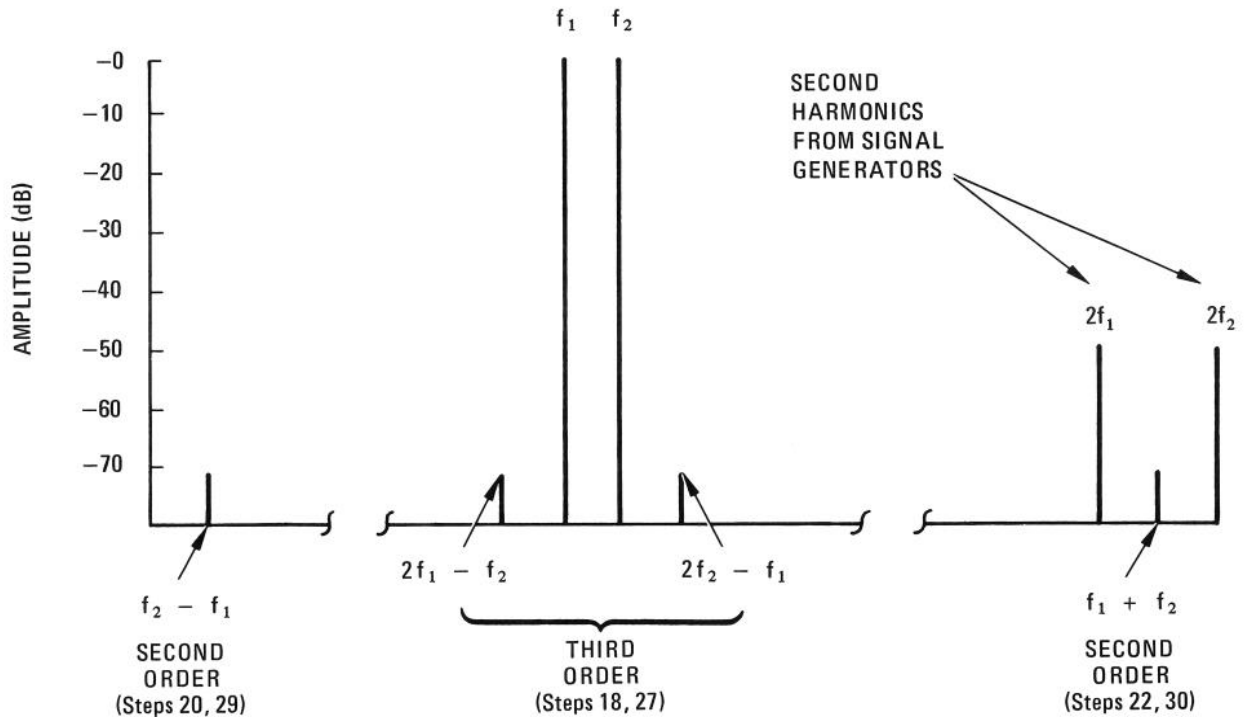

FIGURE 4-15. INTERMODULATION DISTORTION PRODUCTS
18. Reduce spectrum analyzer RESOLUTION BW to 3 kHz and check for third order intermodulation distortion products at approximately 3 divisions to either side of center graticule line (see NOTE below). They should be more than 70 dB below input signals (-100 dBm on spectrum analyzer display). (See Figure 4-15.)
20. Set spectrum analyzer TUNING to 1 MHz and momentarily press FREQUENCY CAL switch. Set RESOLUTION BW to 3 kHz and adjust VIDEO FILTER as necessary for more than 70 dB display range. Check for second order intermodulation distortion product ($f_2 - f_1$) near center of display (see NOTE, below). Second order intermodulation distortion product should be more than 70 dB below the total applied signal (-110 dBm on spectrum analyzer display). (See Figure 4-15.)
22. Check for second order intermodulation distortion product ($f_1 + f_2$) between $2f_1$ and $2f_2$ signals (see NOTE below). Set RESOLUTION BW to 3 kHz and adjust VIDEO FILTER as necessary for more than 70 dB display range. Second order intermodulation distortion product should be more than 70 dB below total applied signal (– 110 dBm on spectrum analyzer display). (See Figure 4-15.)
29. Set spectrum analyzer TUNING to 1 MHz and momentarily press FREQUENCY CAL switch. Set RESOLUTION BW to 3 kHz and adjust VIDEO FILTER as necessary for more than 70 dB display range. Check for second order intermodulation distortion product ($f_2 - f_1$) near center of display (see NOTE below). Second order intermodulation distortion product should be more than 60 dB below total applied signal (– 100 dBm on spectrum analyzer display). (See Figure 4-15.)
30. Set spectrum analyzer TUNING to 8 MHz and check for second order intermodulation distortion product ($f_1 + f_2$) between $2f_1$ and $2f_2$ signals. (See figure 4-15.) Second order intermodulation distortion product should be more than 60 dB below total applied signal (– 100 dBm on spectrum analyzer display). (See NOTE above.)